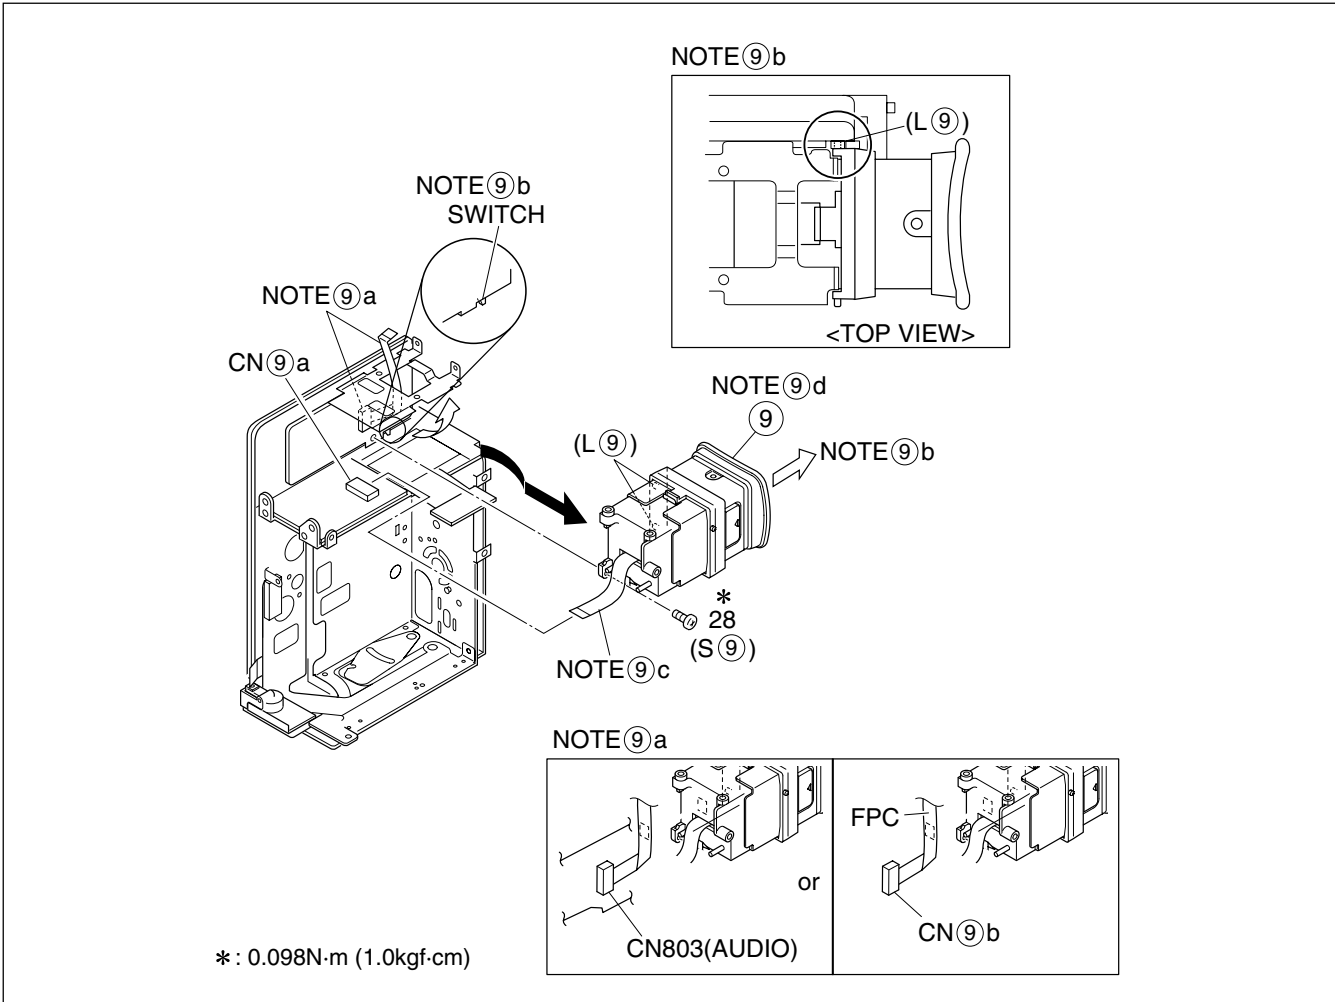
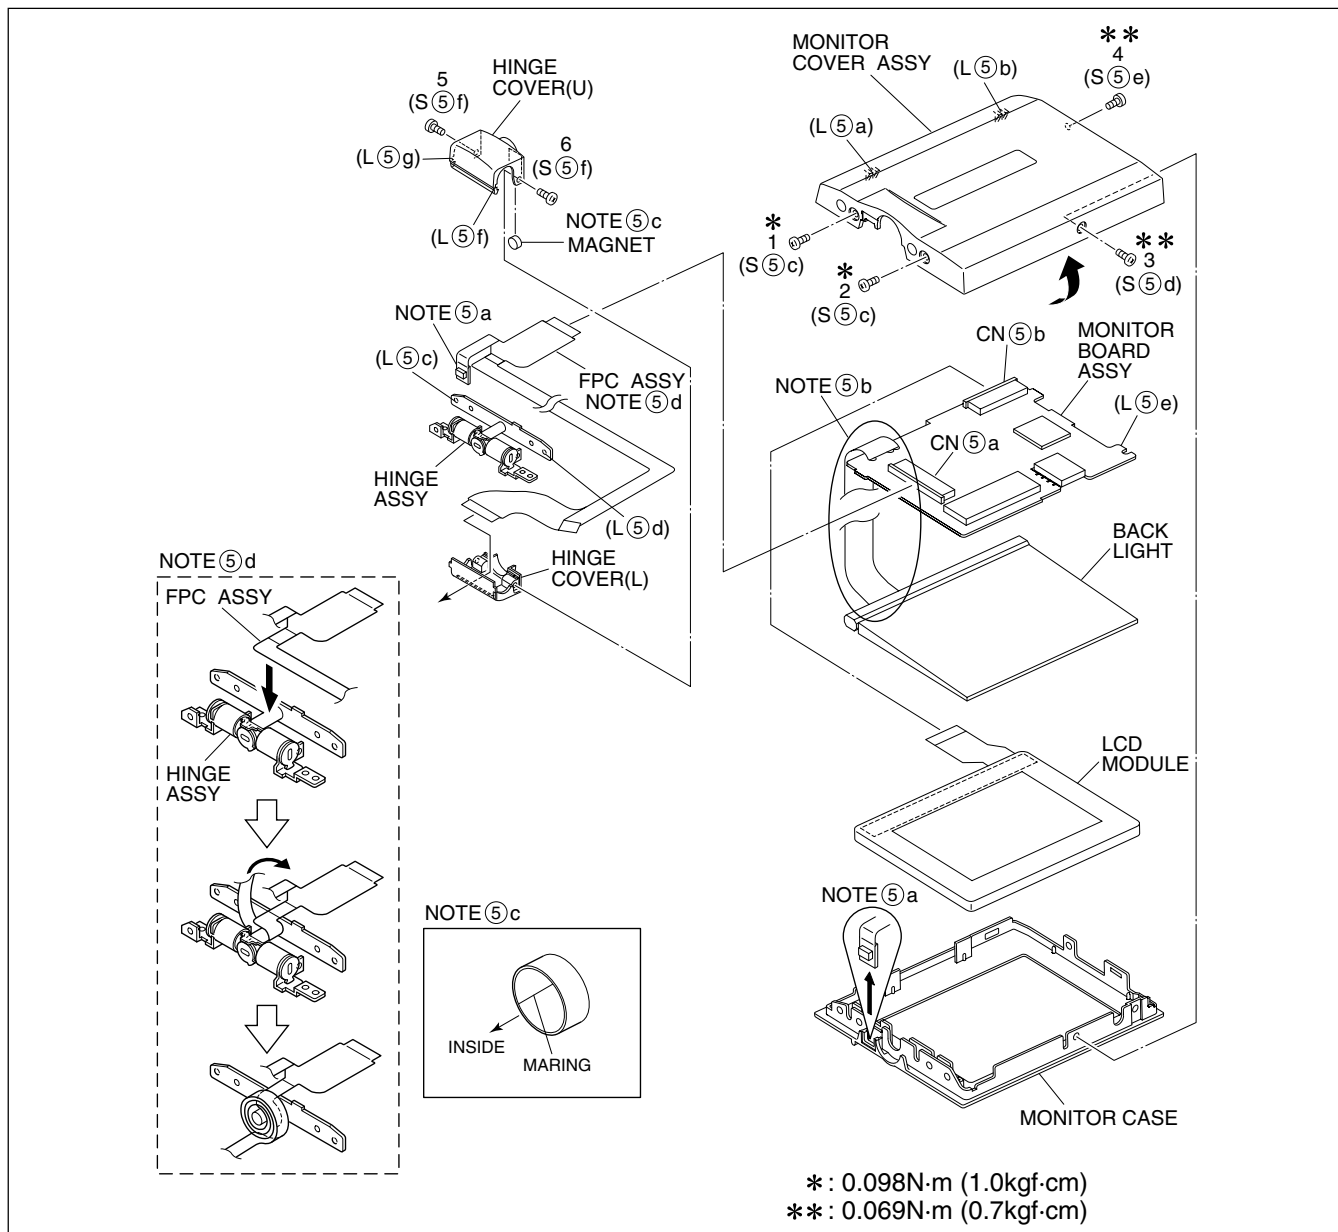
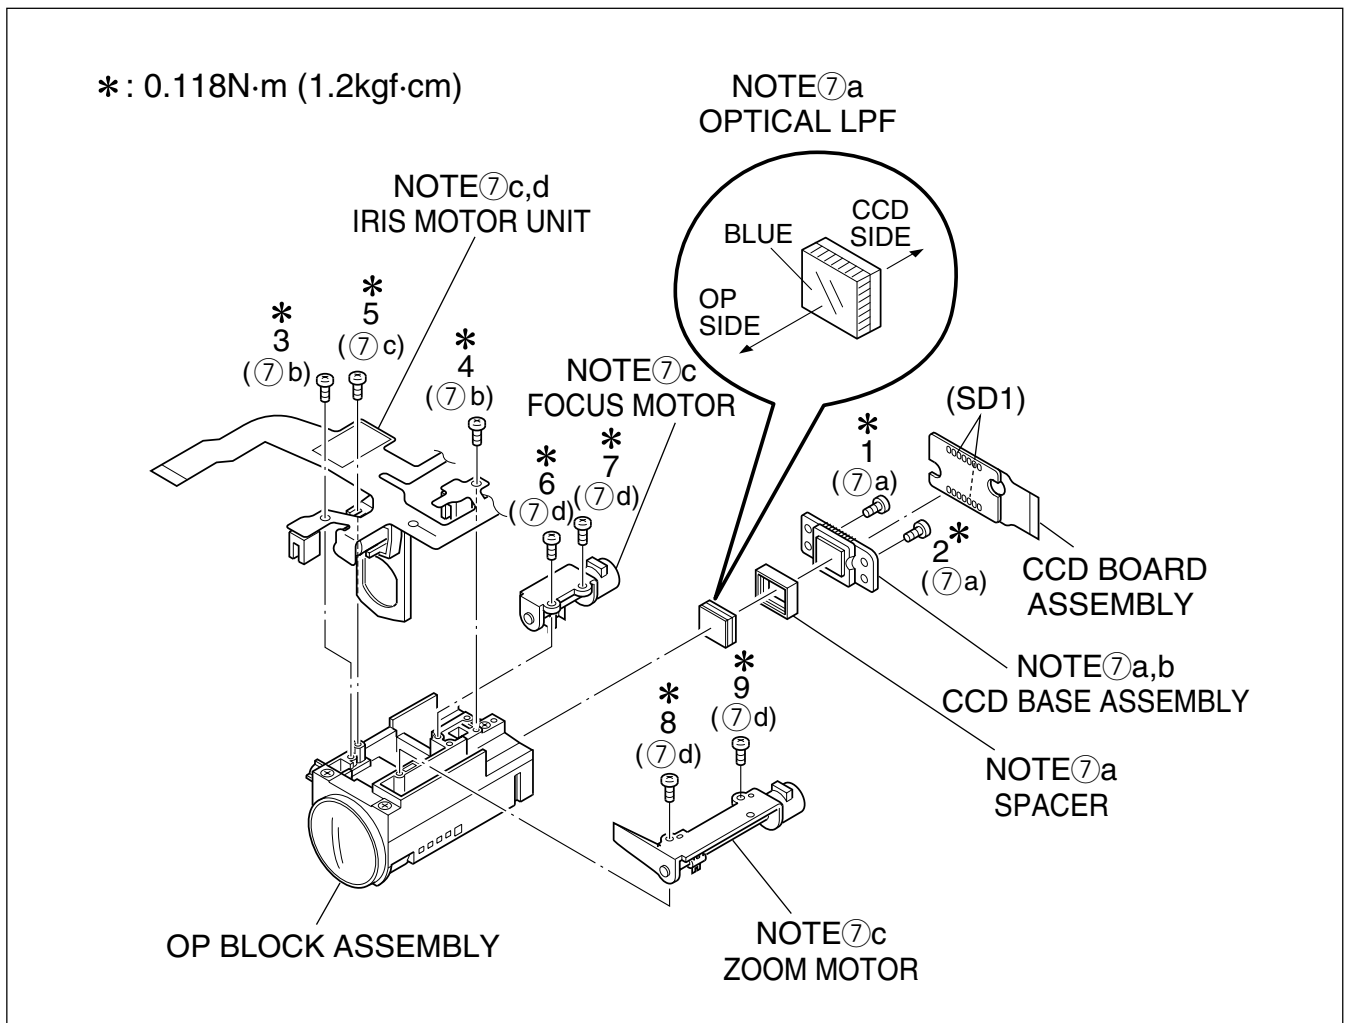
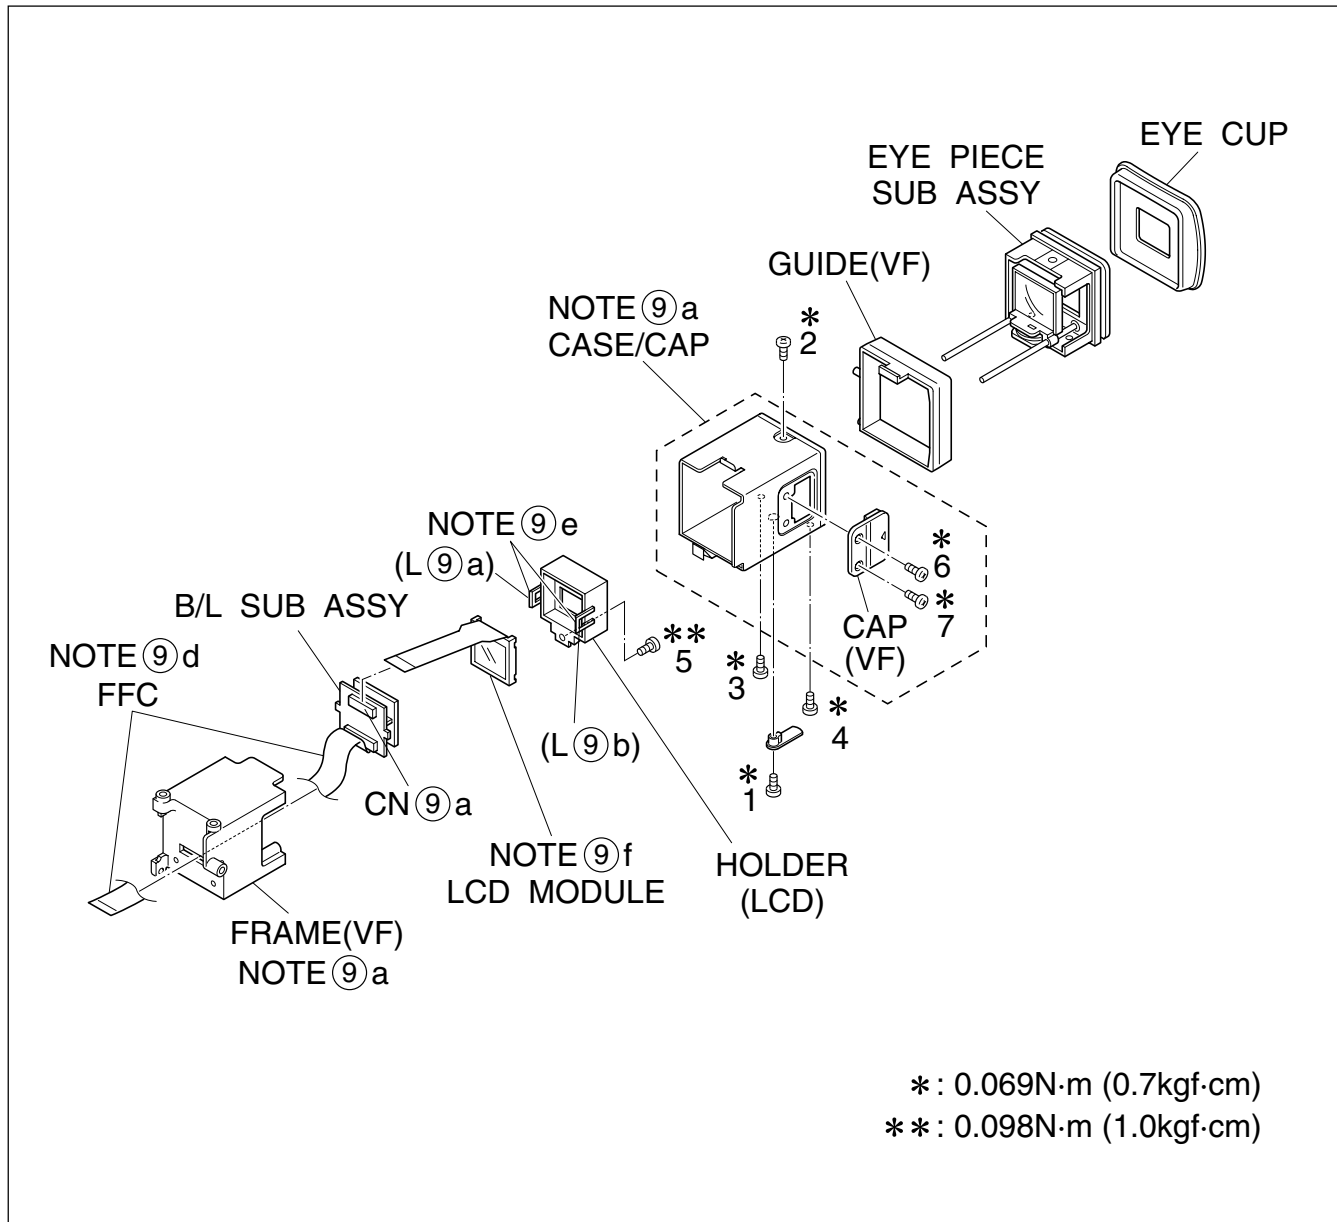

Fig. 1-3-8
Fig. 1-4-1
Fig. 1-5-1
Fig. 1-6-1
**NOTE ②:** Beware of electrical shock due to the capacitor during work. (GR-DVM75U ONLY)
**NOTE ③a:** When disassembling the Front Cover Assembly, remove the screws, pull out the studs and free the grip belt.
**NOTE ③b:** When attaching the assembly, make sure that the strobe block fits properly into the frame. (GR-DVM75U ONLY)
**NOTE ④a:** Remove the Upper Case Assembly before removing the Monitor Assembly ⑤.
**NOTE ④b:** Take care not to damage the parts (battery terminals).
**NOTE ④c:** Take care not to damage the parts (spring).
**NOTE ⑤:** Refer to Fig. 1-4-1 for the disassembly method.
**NOTE ⑥a:** Remove the board assemblies (Main/MDA) and Mechanism Assembly together.
**NOTE ⑥b:** When removing, take care not to disconnect the wire or damage any of the parts.
**NOTE ⑥c:** When attaching, be careful of the board attaching position.
**NOTE ⑦a:** Remove the OP Block Assembly together with the Strobe Assembly. Beware of electrical shock due to the capacitor during work. (GR-DVM75U ONLY)
**NOTE ⑦b:** When removing, take care not to disconnect the wire or damage any of the parts.
**NOTE ⑦c:** Refer to Fig. 1-5-1 for the disassembly method.
**NOTE ⑧:** Beware of electrical shock due to the capacitor during work. (GR-DVM75U ONLY)
**NOTE ⑨a:** When removing, be careful with the FPC (for the Deck Operation Assembly) attached inside the E.VF Assembly. Remove the FPC by unplugging it from the connector and then taking the FPC out together with the E. VF or by peeling it carefully so that the double-sided adhesive can be reused later.
**NOTE ⑨b:** When removing or attaching, take care not to damage any parts. Particularly, when attaching the switch, always pull out the E.VF Assembly to avoid it from damaging the switch.
**NOTE ⑨c:** When attaching, be careful with the wire treatment.
**NOTE ⑨d:** Refer to Fig. 1-6-1 for the disassembly method.
**NOTE ⑩a:** When attaching or removing, take care not to damage any parts. Attach the slide switch at the position of the DSC switch (VIDEO side). (GR-DVM75U ONLY)
**NOTE ⑩b:** When attaching, take care with the wire treatment. This note does not apply when the E.VF Assembly and FPC have been removed together as shown in Fig. 1-3-8.
**NOTE ⑪a:** When unplugging the connector ⑪d, be careful with the handling of the FPC connected to it.
**NOTE ⑪b:** Connector ⑪e is located inside the circuit board, so it should be the last item to be removed.
**NOTE ⑪c, ⑫:** When attaching, pay heed to the FPC treatment. Mount the FPC so that it is caught between the Mechanism Assembly and the Main Board Assembly.
Reference drawing	Fig. 1-4-1
Reference drawing	Fig. 1-5-1
Reference drawing	Fig. 1-6-1